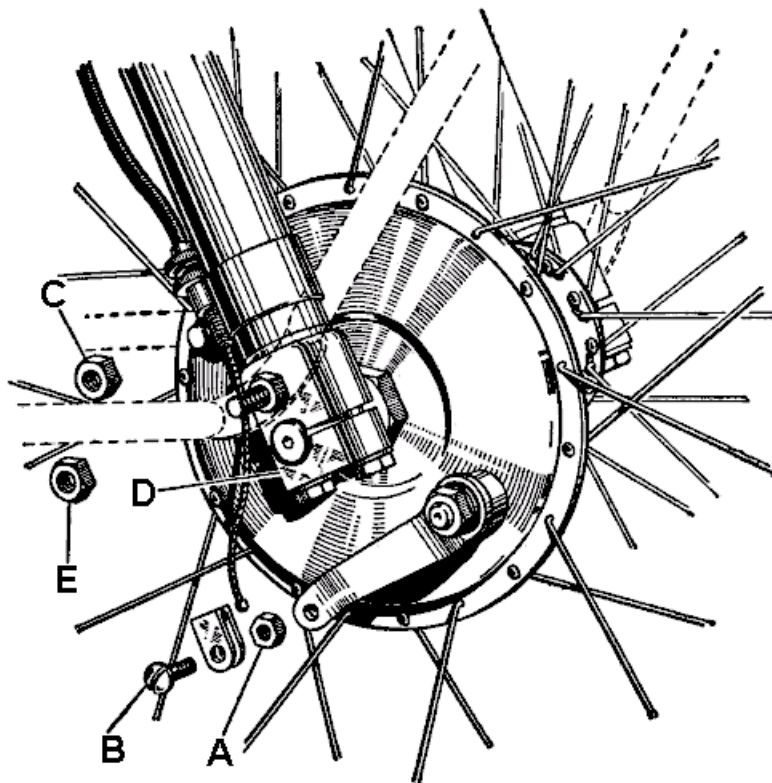

FIG. D29. *Front wheel removal.*
Disconnect the brake cable by removing the nut (A) and the screw (B) Fig. D29, at the brake drum end. Slacken the torque arm nut (C) on the cover plate and remove the end caps (D) by unscrewing the four bolts (two in each cap) and as the last bolt is removed support the wheel to avoid damage to the screw threads on the bolt or the screwed sockets. The wheel will now be free.
If the front forks or steering head is to be dismantled, it will be necessary to remove the front mudguard. This is done by taking out the two bolts and nuts on the bridge piece midway up the fork legs, and then the two nuts (E) Fig. D29, on each side of the fork ends holding the stays. Spring the stays over the studs and drop the guard down out of the forks.